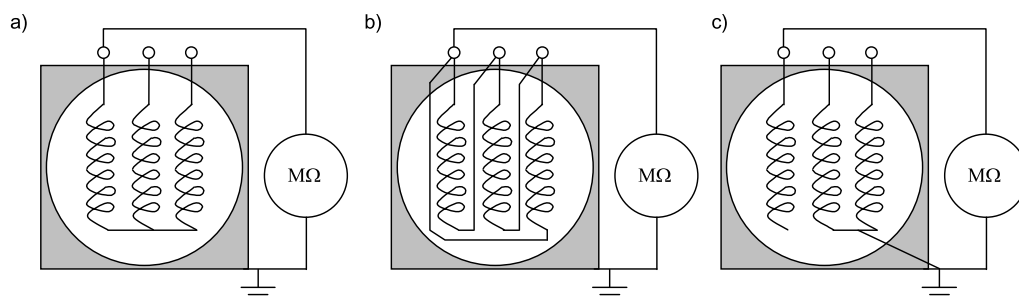

Figure 39 Connections of the stator windings for insulation resistance measurements
- Check that the secondary connections of the current transformers (CT's), including spare cores are not open. See Figure 39 Connections of the stator windings for insulation resistance measurements.
The insulation resistance measuring should be carried out in the terminal box. The test is usually performed to the whole winding as a group, in which case the meter is connected between the frame of the machine and the winding; See Figure 39 Connections of the stator windings for insulation resistance measurements. The frame is earthed and the three phases of the stator winding remain connected at the neutral point, see Figure 39 Connections of the stator windings for insulation resistance measurements.
If the measured insulation resistance of the whole winding is lower than specified, and the phase windings can easily be disconnected from each other, each phase can also be measured separately. This is not possible for all machines. In this measurement, the tester is connected between the frame of the machine and one of the windings. The frame and the two phases not measured are earthed; see Figure 39 Connections of the stator windings for insulation resistance measurements.